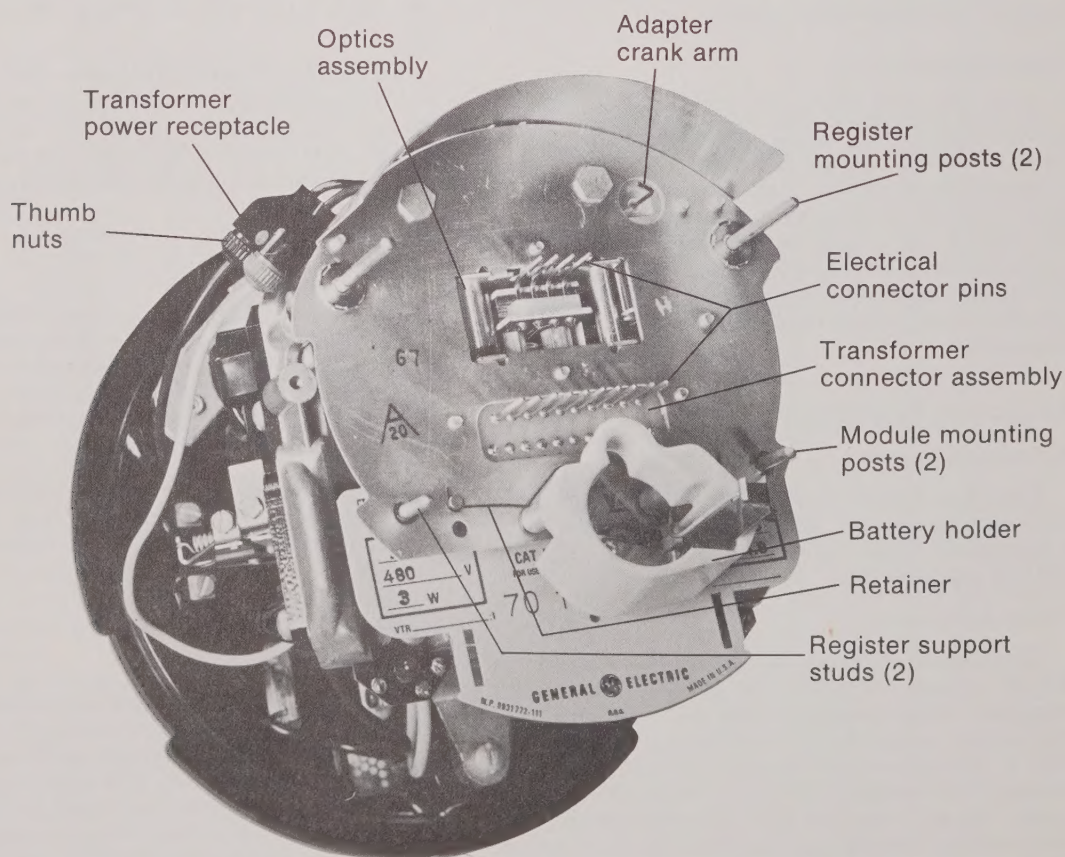

Fig. 2. Type VRM-63-S with TM-80 adapter assembly installed.
1. The field-replaceable carryover battery installed in its holder (see Fig. 2). The cover photo shows the battery installed.
The register consists of two assemblies: the electronic module and the adapter assembly. They are handled as individual units and easily joined together to form the complete register when assembled on the watthour meter. The adapter assembly is first mounted onto the meter (see Fig. 2), then the electronic module
The adapter assembly is modularly constructed with the subassemblies described below, all individually removable and held on by screws. These subassemblies are shown in Figs. 2 and 3.
4. Battery Holder -- This is held to the adapter plate by two mounting posts. These posts also hold the retainer (see Fig. 2) that locks the adapter assembly to the register support studs.